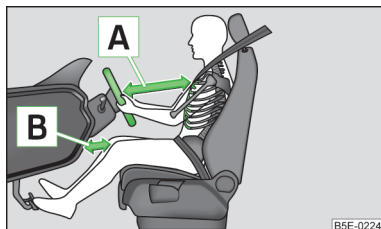

Fig. 115
- Position the steering wheel so that there is a gap of at least 25 cm between the steering wheel and the chest [A] » Fig. 115, and that the distance between the legs and the dash panel at the height of the knee airbag is at least 10 cm [B]. Not maintaining this minimum distance will mean that the airbag system will not be able to properly protect you – hazard!